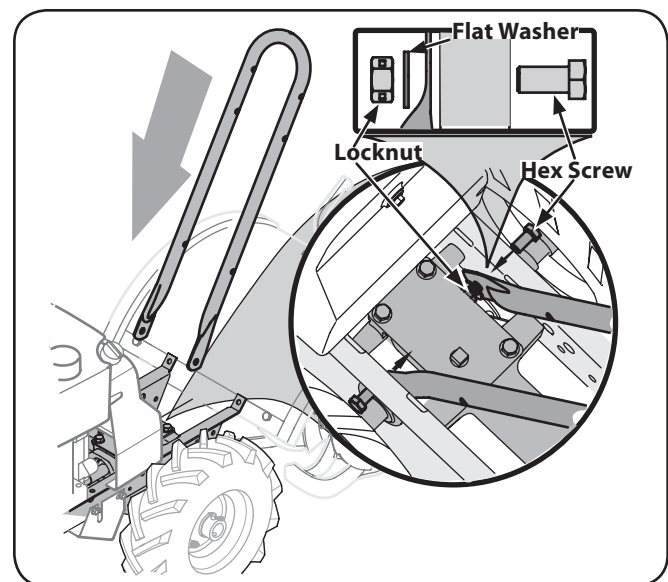

Figure 3-1
1. Loosely attach the legs of the handlebar support to the inner sides of the tiller frame using two 3/8"-16 x 3/4" hex head screws, 3/8" flat washers, and 3/8"-16 hex locknuts. See Fig. 3-1.